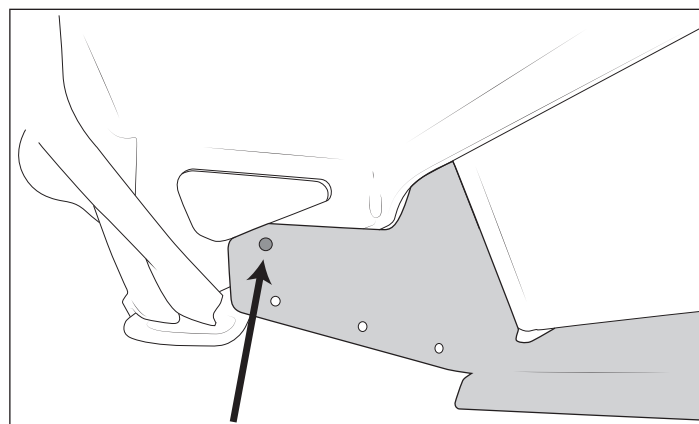

Figure 34
3. To attach the sides of the intercooler shroud to the bumper, use the upper shroud hole as a guide to drill out the bumper and secure with the M6x20 bolts, nuts, and washers supplied in the intercooler shroud kit (fig. 34). Torque to 9 lb-ft.